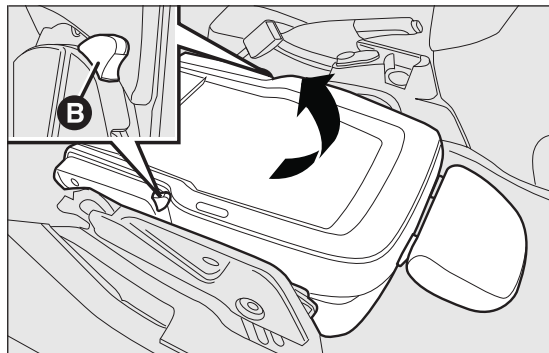

fig. 20
- ❑ operate levers B fig. 20 and further lift the seat upwards.